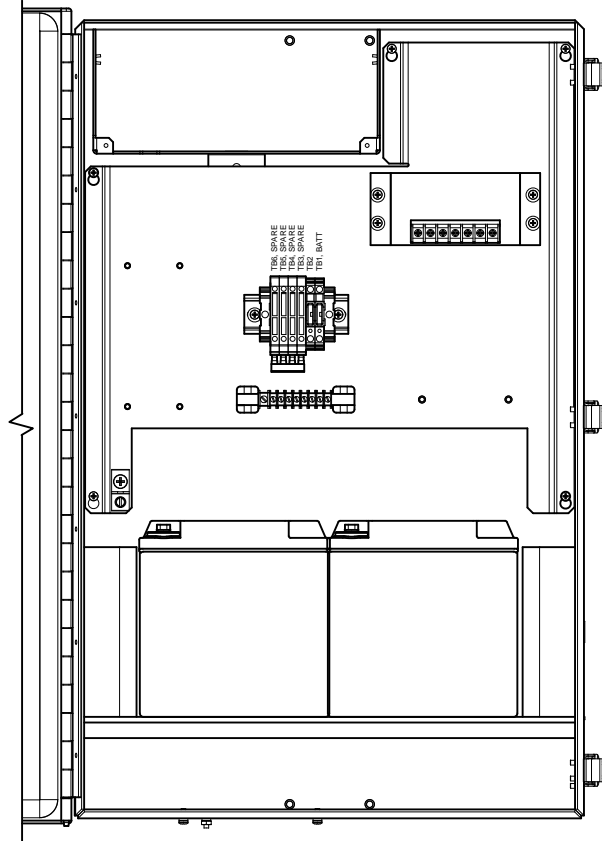

Figure 3-73 Optional 6800 Enclosure with Battery Pack
- 1) Insert the battery(s) into the battery compartment with the terminals facing up (see Figure 3-73).